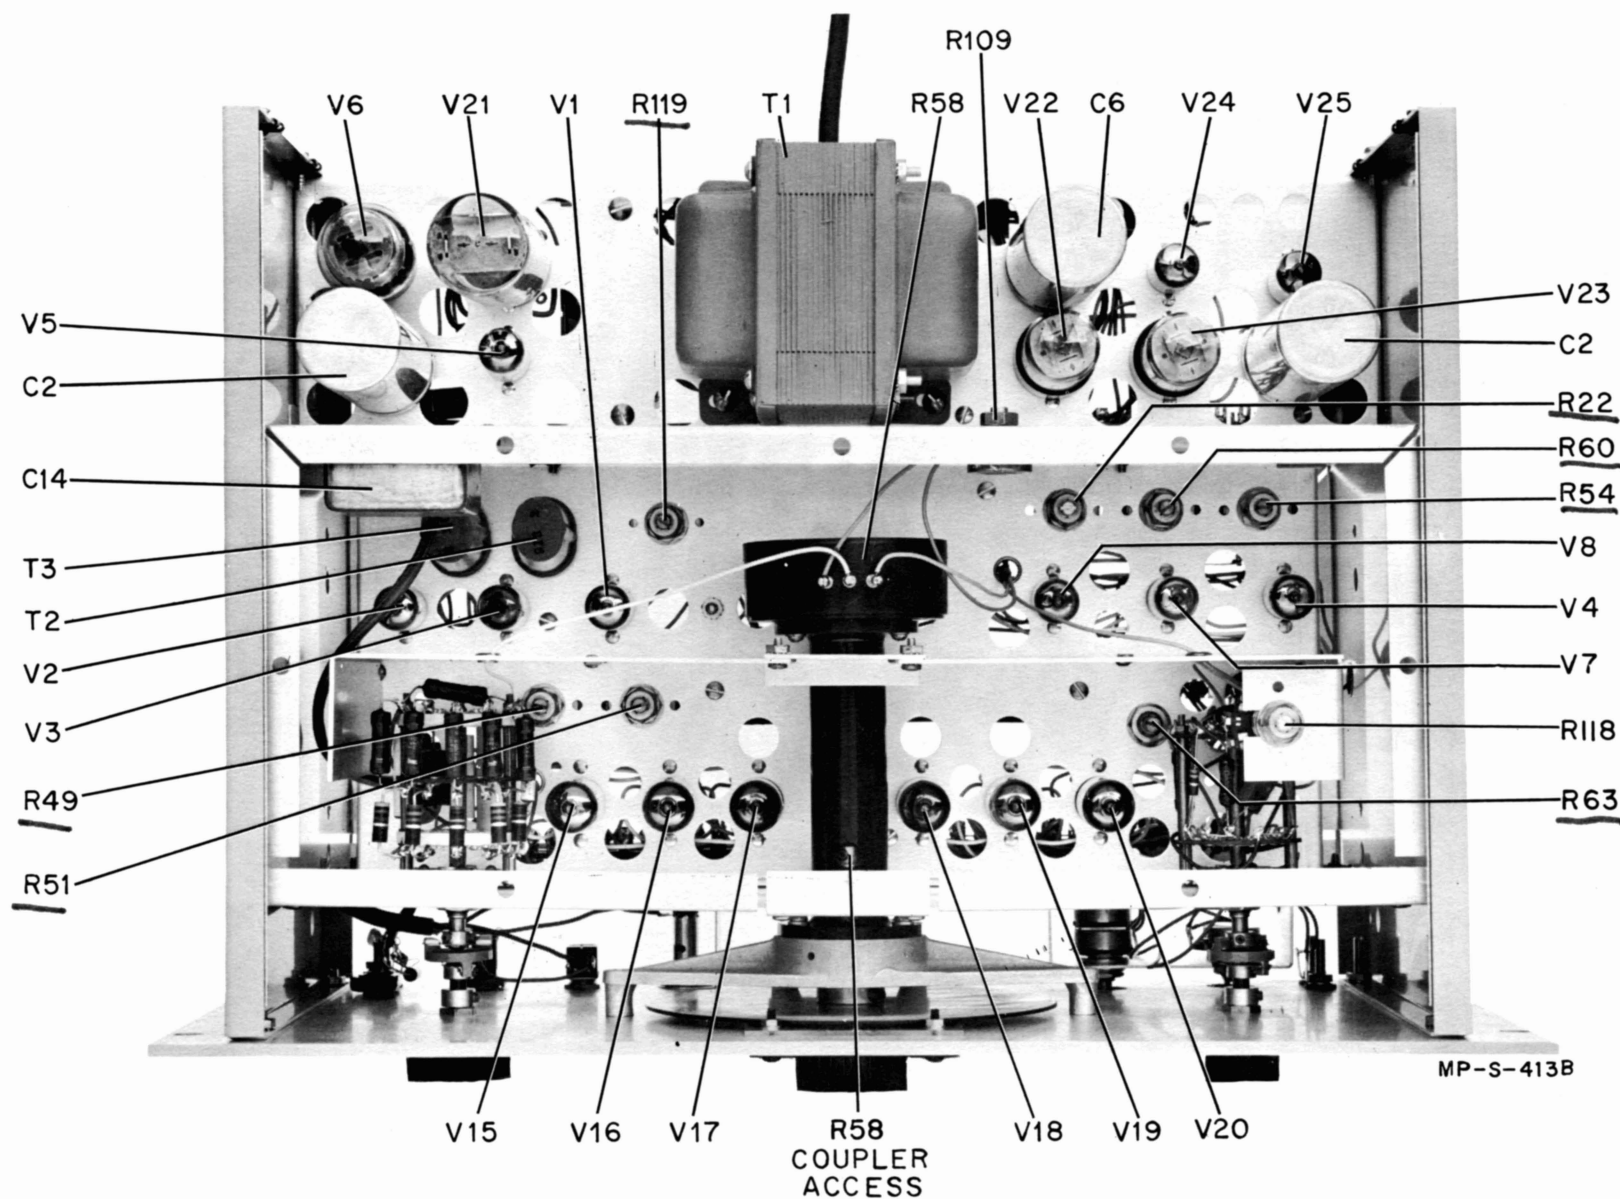

Figure 4-4. Model 202A Top View Cover Removed
6) The ratio obtained in step 5 must be 15 to 1. Adjust by loosening the coupler between the dial and potentiometer (R58) shafts. See Figure 4-4 for coupler access hole location. Rotate one shaft with respect to the other to obtain a period of 83.3 milliseconds with a dial reading of 12. Tighten both set screws in the coupler.